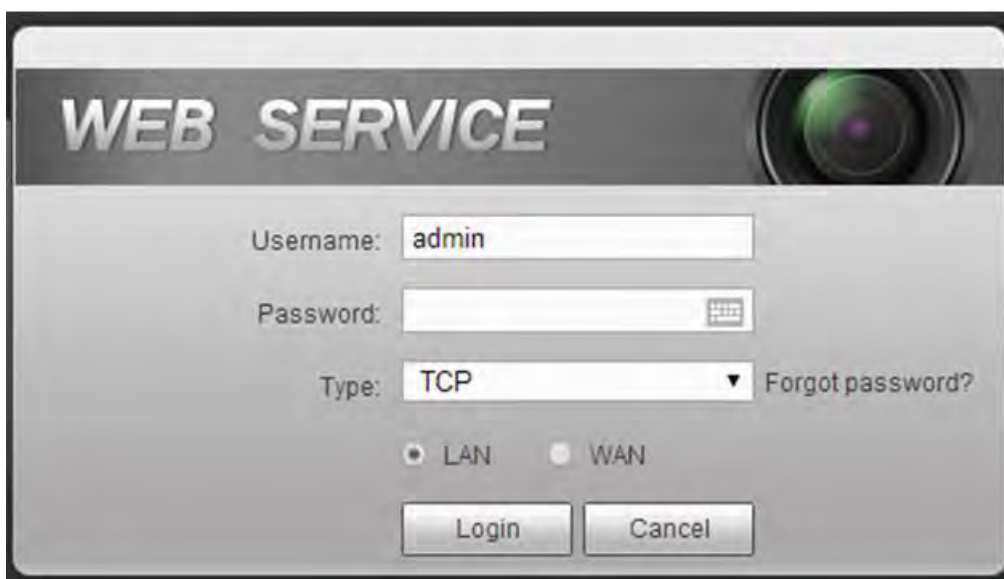

Figure 5-5
Step 2 Please click Install button, system can auto run the installation. Or follow the prompts to save the installation package and install. After installation, the interface is shown as below. See Figure 5-5.